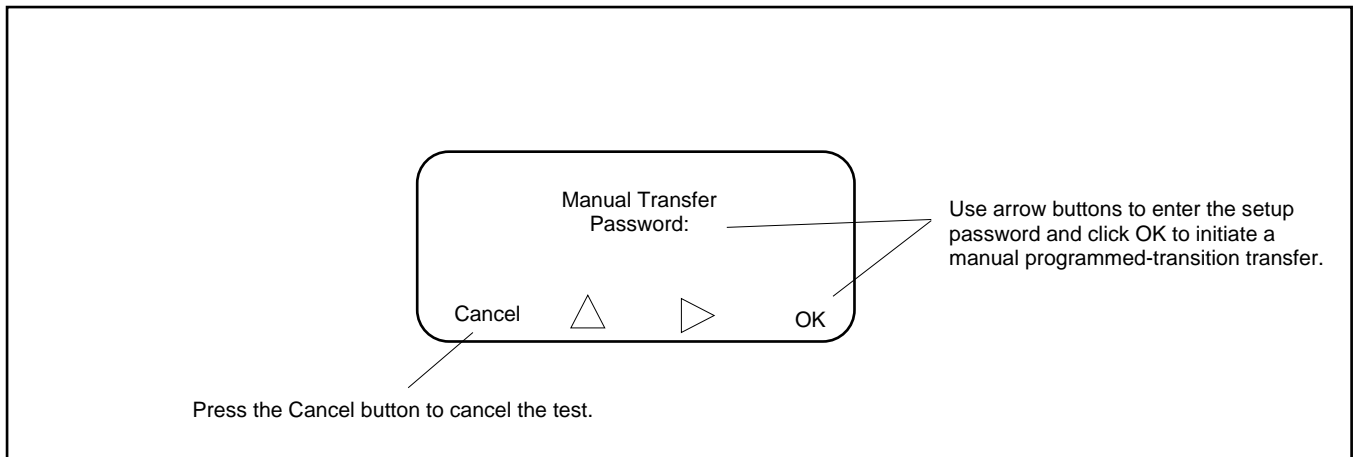

Figure 14 Manual Transfer Menu for Programmed-Transition Override
- If the override function is set to manual, the user can either initiate a programmed-transition type transfer (setup password required) or cancel the test sequence. See Figure 14. If neither action is taken, the controller will continue to check for synchronization and transfer if the sources synchronize.